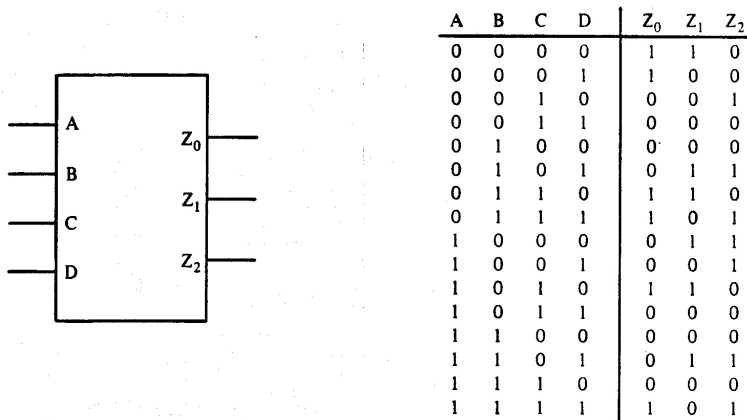

Figure 6.37 Block diagram and truth table for Problem 6.11.
6.11. Repeat Problem 6.10 for the block diagram and truth table shown in Fig. 6.37.